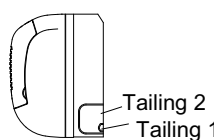

Fig.10
1. When routing the piping and wiring from the left or right side of indoor unit, cut off the tailings from the chassis in necessary (show in Fig.10).